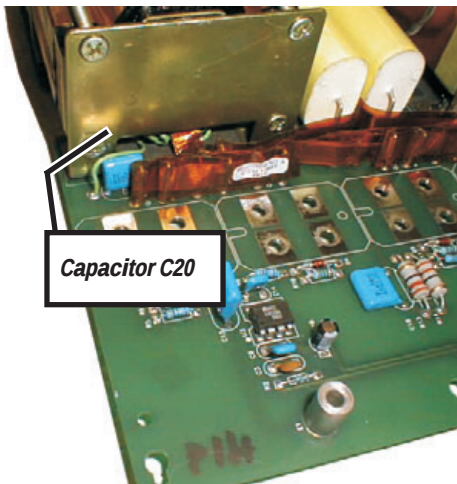

Figure 2.13. Capacitor C20 may also need replacement. See the text.
4. Check the value and rating labeled on capacitor C20 (see Figure 2.13). If it is not a 0.1 μ F 250V capacitor (early modules will have the original 0.047 μ F 400V component instead), replace it with QSC part # **CA-410009-00**.